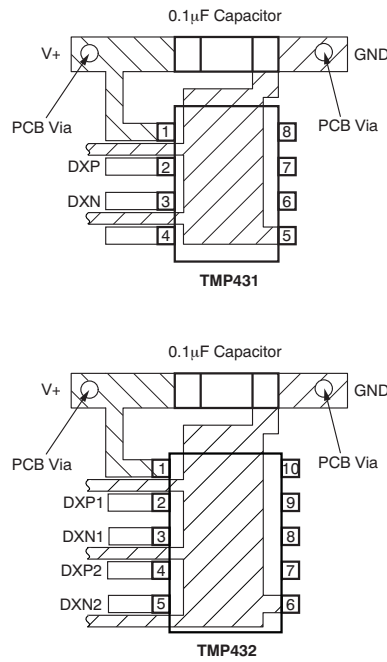

Figure 25. Suggested Bypass Capacitor Placement
4. Use a 0.1- μ F local bypass capacitor directly between the V+ and GND of the TMP43x. Figure 25 illustrates the suggested bypass capacitor placement for the TMP43x. This capacitance includes any cable capacitance between the remote temperature sensor and TMP43x.